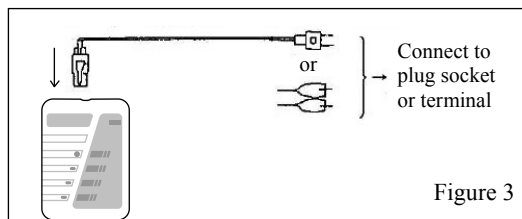

Figure 3
1. [Figure 3] Connect the transmitter to the terminal to check the voltage. One of the circuit voltage LEDs blinks.